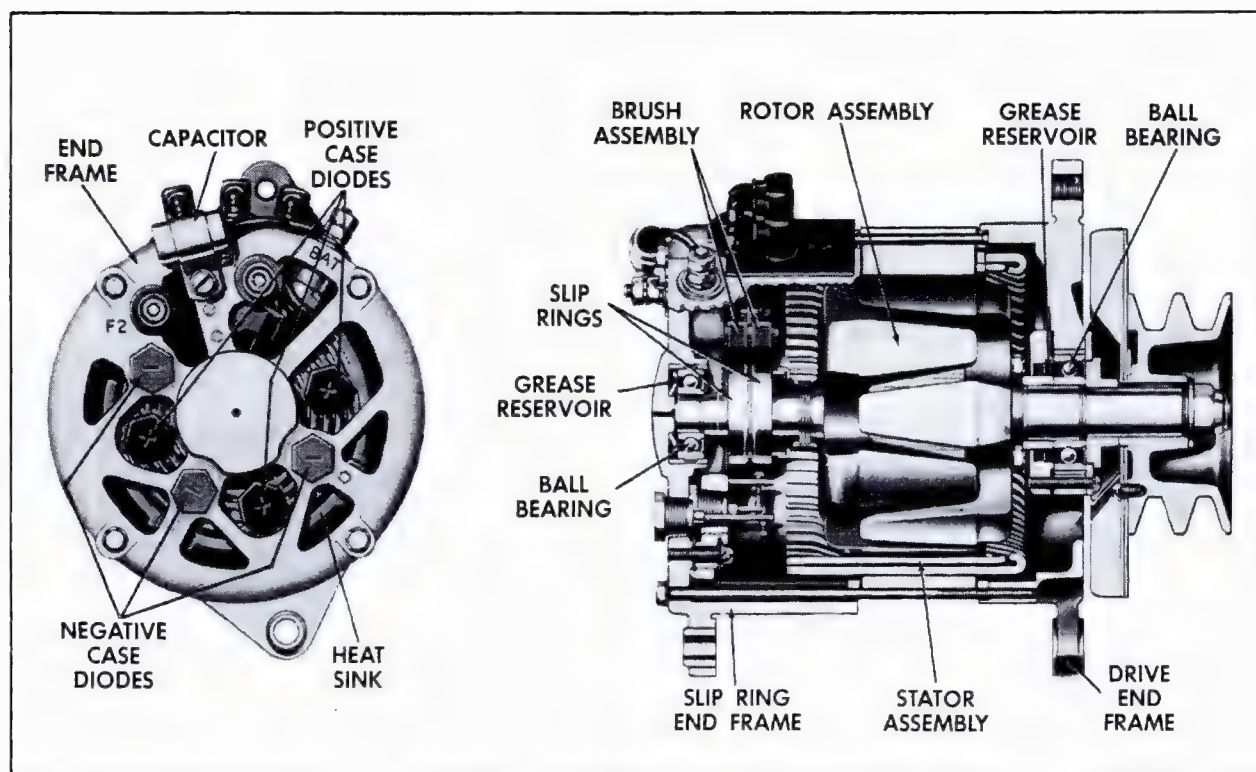

Fig. 6-40 Generator Cut-Away View
##### a. Disassembly (Fig. 6-40)
1. Remove four through bolts securing drive end frame to slip ring end frame, Fig. 6-40.